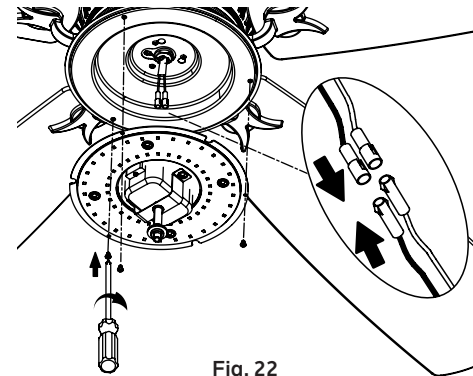

Fig. 22
**Step 1.** Hold the LED light kit to light plate, then connect the 2 single pin connectors from the light kit to the 2 single pin connectors from the motor assembly. Connect the black wire to black wire, and the white wire to white wire. Attach the light kit to the light plate and securely tighten with three (3) screws from the screw pack (Fig. 22)